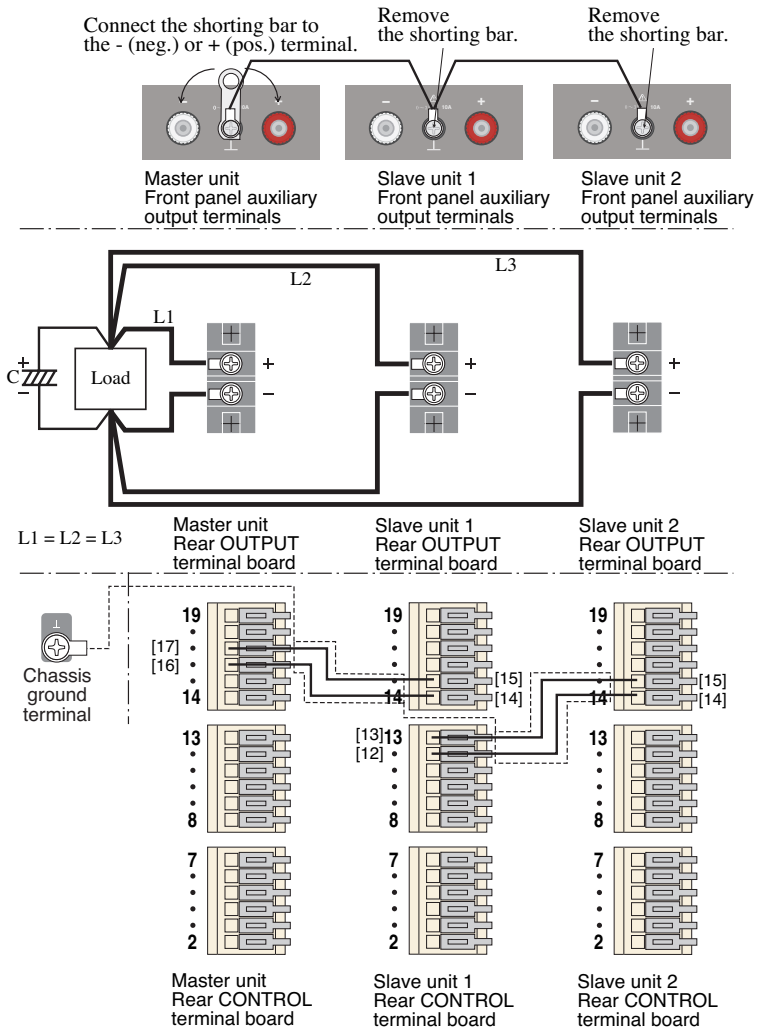

Fig.4-16 Connection for master-slave-control parallel operation
6. Connect the master unit and slave unit as shown in Fig.4-16. Fig.4-16 shows an example of how the rear output terminals are connected in parallel for two slave units